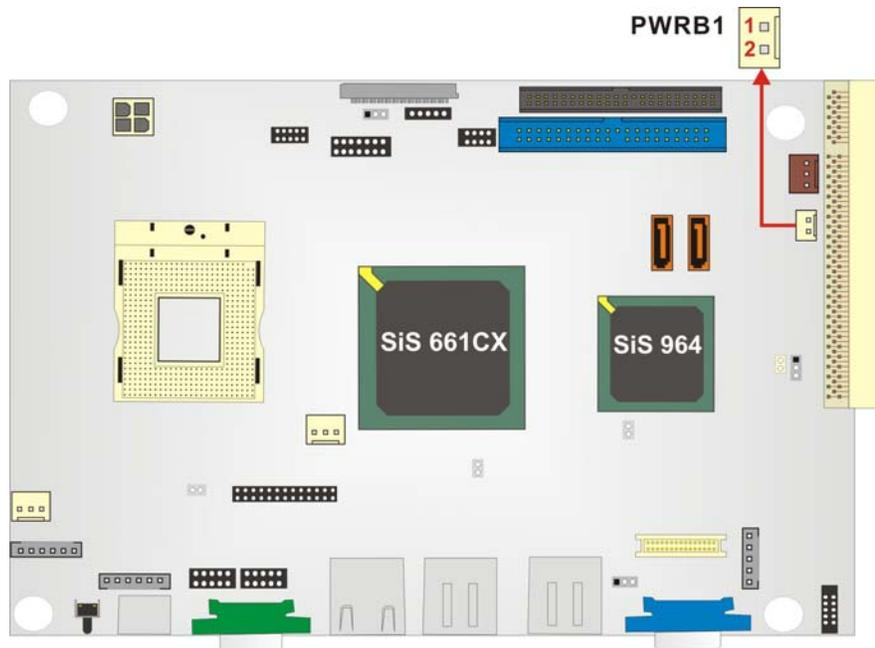

Figure 3-3: ATX Power Button Connector Location
- CN Location:** See Figure 3-3